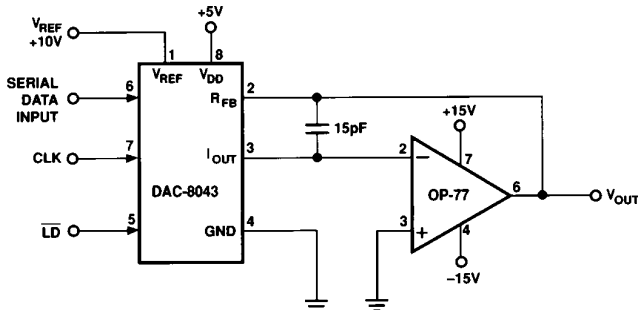

Figure 5. Unipolar Operation with High Accuracy Op Amp (2-Quadrant)
1. Phase compensation (see Figures 5 and 6).
In most applications, linearity depends upon the potential of I_{OUT} and GND (pins 3 and 4) being exactly equal to each other. In most applications, the DAC is connected to an external op amp with its noninverting input tied to ground (see Figures 5 and 6). The amplifier selected should have a low input bias current and low drift over temperature. The amplifier's input offset voltage should be nulled to less than $+200 \mu\text{V}$ (less than 10% of 1 LSB).
The circuit shown in Figures 5 and 6 may be used with an ac or dc reference voltage. The circuit's output will range between 0 V and approximately $-V_{REF}$ (4095/4096) depending upon the digital input code. The relationship between the digital input and
¹Nominal full scale for the circuits of Figures 5 and 6 is given by
²Nominal LSB magnitude for the circuits of Figures 5 and 6 is given by
The transfer function for the DAC8043 connected in the multiplying mode as shown in Figures 5, 6 and 7 is: